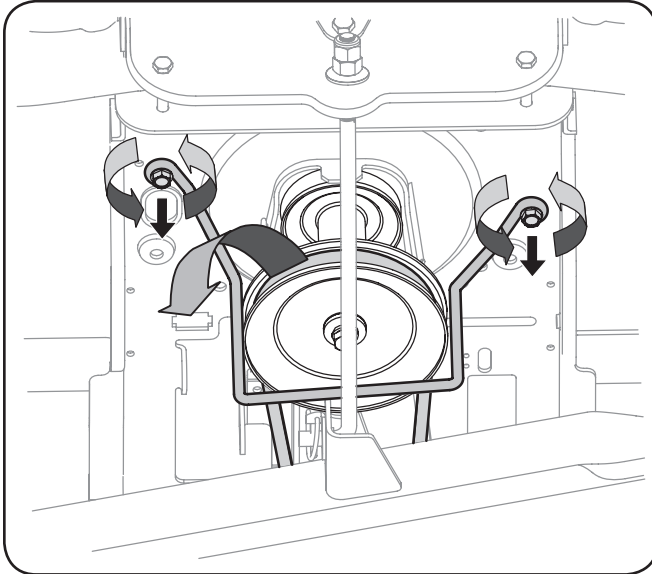

Figure 7-1
3. Locate the engine pulley under the front of your tractor. See Fig. 7-1.
4. Remove the belt guard and belt as follows. Refer to Fig. 7-1:
12. Replace the belt guard. See Fig. 7-1.